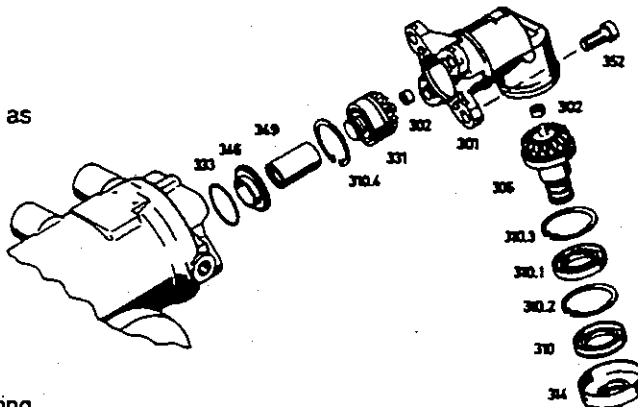

Fig.49
Press needle sleeves (302) in as far as possible with tool [36]. Install bevel gear (306) (*Fig.49*).
19.3.2 Angular gear versions with coupling sleeve (349)
Fit dust seal (314) on bevel gear (306) (see Fig.49).